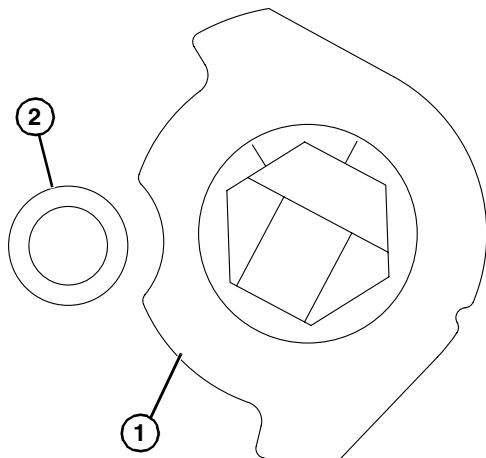

Figure 16
- Hex shaft assembly will need to be rotated (**Figure 16**) for stop keys (**Figure 16, item 1**) to pass by the frame stops (**Figure 16, item 2**).